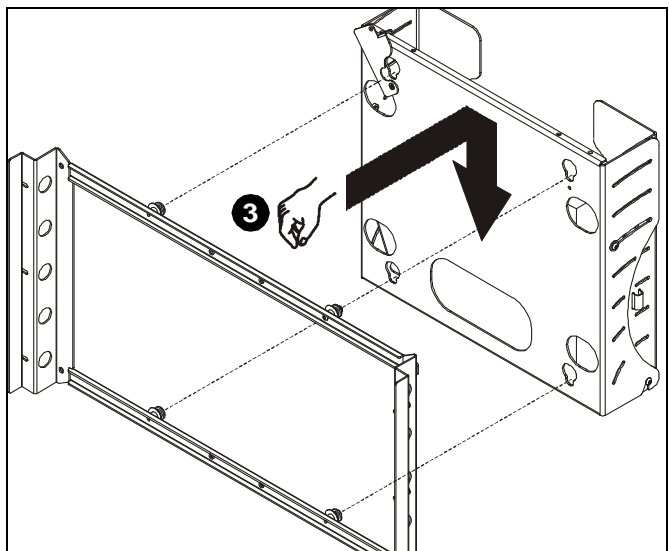

Figure 8
3. Lift and maneuver display so that all four mounting buttons on interface fit into button openings on front plate. Lower display firmly into place. Ensure each button has fully seated in its button opening (See Figure 8).